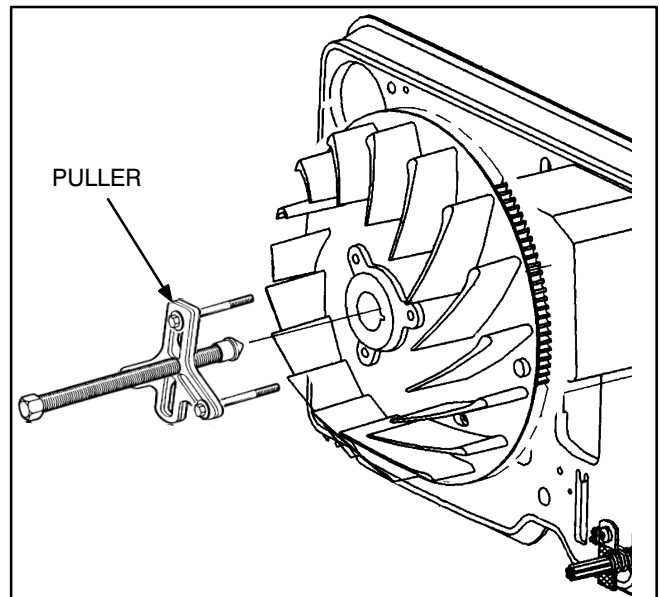

FIGURE 9-2. PULLING THE FAN HUB ASSEMBLY
9. Remove the alignment key from the end of the rotor shaft and save for reassembly. Remove the fan hub assembly with a wheel puller (Figure 9-2) Attach the wheel puller to the fan hub assembly with three 5/16-inch thread tapping cap screws (or tap fan hub with 3/8-inch tap and use 3/8-inch cap screw).